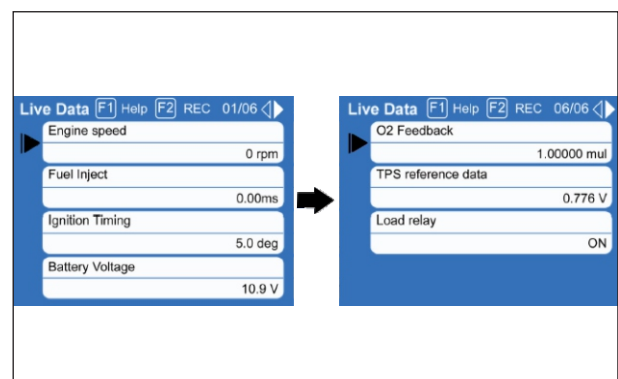

Fig. 7.18
- It usually has parameters like Engine speed, Vehicle speed, Engaged gear, Battery voltage, Injection time, Ignition time, Throttle value, Atmospheric pressure, Inlet pressure, State of system, Fuel pump status, O2 heater status, etc. (Fig. 7.18)